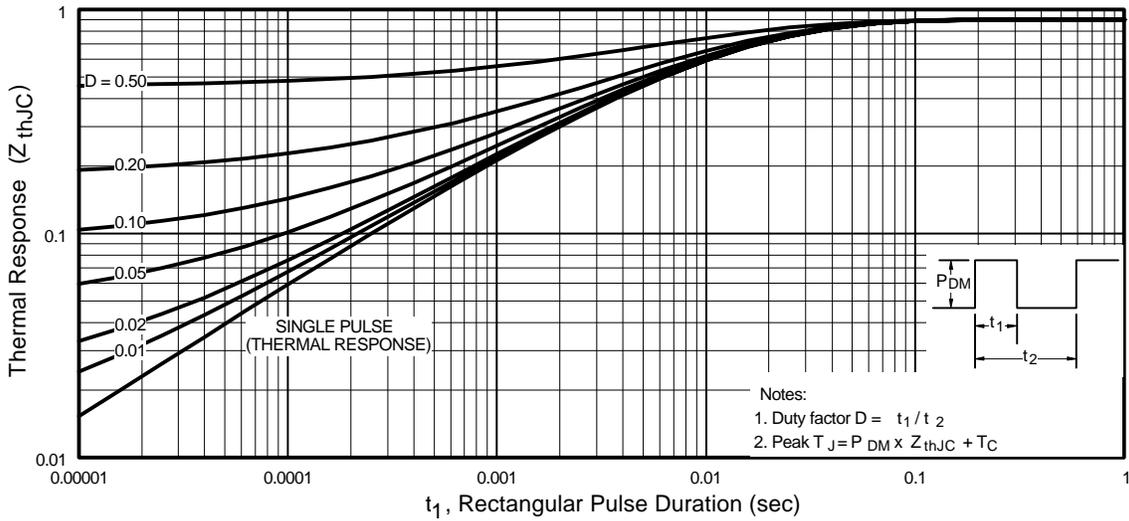

Fig 11. Maximum Effective Transient Thermal Impedance, Junction-to-Case
① Repetitive rating; pulse width limited by max. junction temperature. ( See fig. 11 )
② VDD = 15V, starting TJ = 25°C, L = 0.18mH